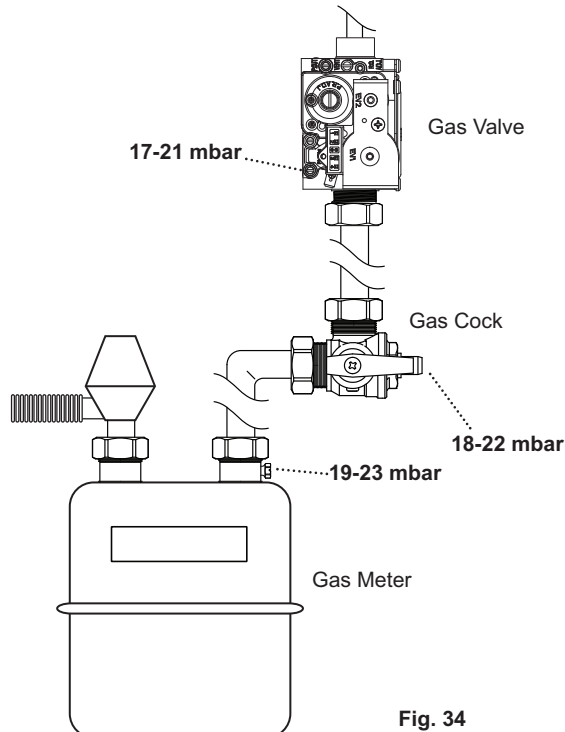

Fig. 34
2. With the boiler operating in the maximum rate condition check that the operational (working) gas pressure at the inlet gas pressure test point is in accordance with B.S. 6798 & B.S. 6891. This must be AT LEAST 17mb ! (Fig. 34)